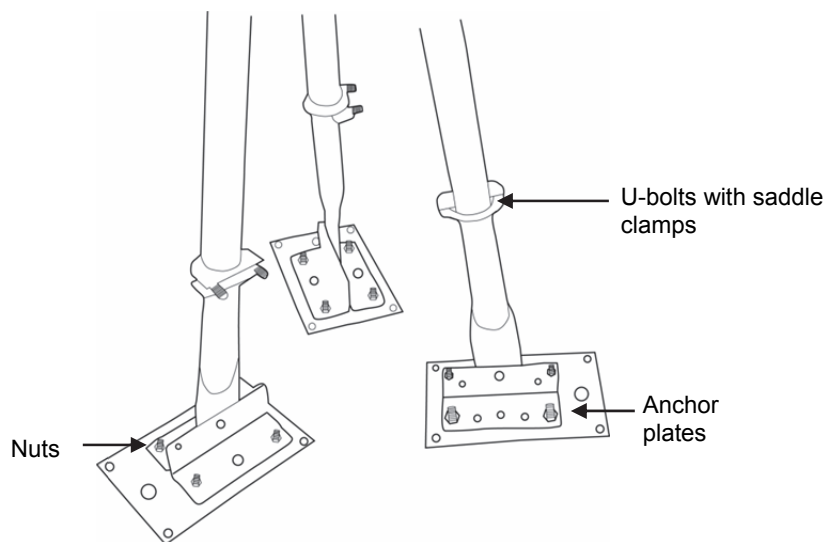

Figure 19: Three meter lower tripod
1. Using 5/16 inch nuts, attach the three anchor plates to the three tripod foot brackets, with the large holes to the outside (see Figure 19). Tighten the nuts securely.